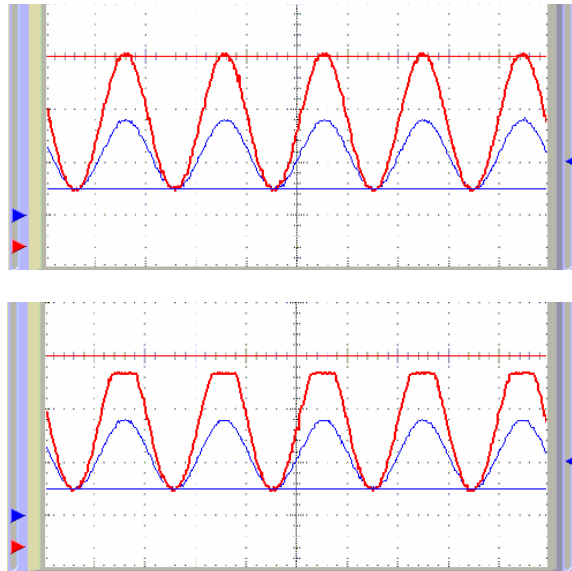

Figure 8-12:
You will repeat this exercise using different resistor values for R_i and R_f to create a gain of 2 and a gain of 3. When you repeat this exercise for a gain of 2, where $R_i = 1 \text{ k}\Omega$ and $R_f = 1 \text{ k}\Omega$, your signal may or may not be clipped. This will depend on your supply voltage, which determines the dynamic range of the amplifier. Whenever the op-amp tries to send a voltage that is beyond its dynamic range, the actual output will stop at the limit of its dynamic range. If you are using a fresh 9 V battery, your signal might not be clipped, but if it is close to worn out, your signal might be clipped. Figure 8-12 shows what the signal with a gain of 2 might look like if it is clipped or not clipped.
- ✓ Measure the amplitude of the new output signal, noting the ΔV value. If your signal is clipped, you may have to visually estimate the placement of the upper cursor as shown in the bottom picture of Figure 8-12.